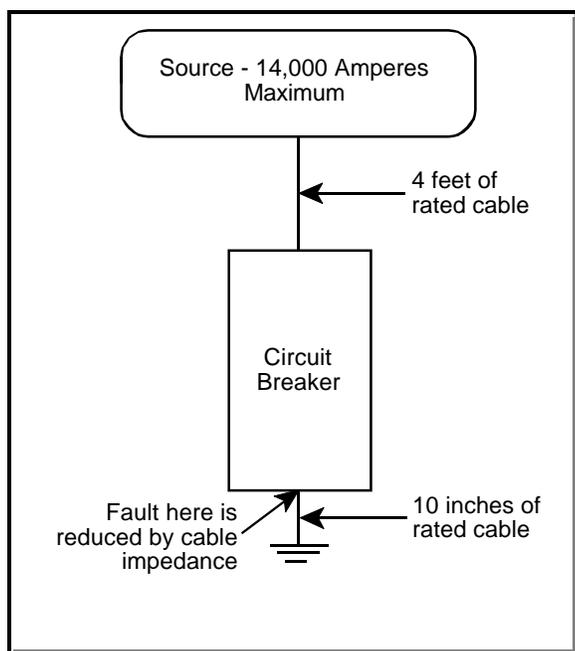

Figure 1 - UL CB Test Circuit
Special care must be exercised in evaluating the interrupting ratings of molded case circuit breakers (MCCB). Interrupting ratings of molded case circuit breakers are evaluated using a circuit similar to that shown in Figure 1¹. A power source calibrated to precise voltage, short circuit capacity, and power factor is connected to the breaker under test via a maximum length of four (4) feet of rated cable. The actual short circuit is connected to the breaker via a ten (10) inch length of rated cable.
If the circuit breaker successfully interrupts the short circuit (subject to the conditions imposed by the test parameters), the breaker is then listed with an interrupting rating equal to the source short circuit capability. In Figure 1, for example, the breaker would be rated at 14,000 Amperes.